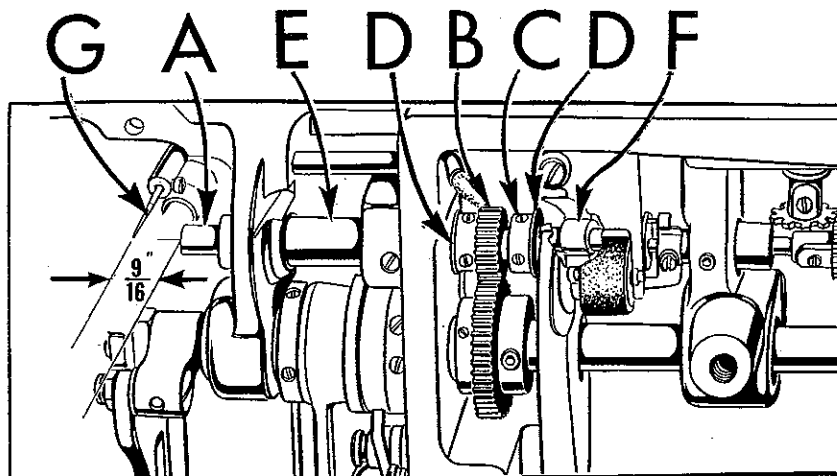

Fig. 21
The hook shaft (A, Fig. 21) is held in position by the pinion (B) and collar (C) thrusting against hard steel washers (D) between the long left hand bushing (E) and the short right hand bushing (F).
Before re-assembly, the end of the hook shaft, its spiral groove and the pump disc should be thoroughly cleaned. Remove any end play found in hook shaft and determine that the 35/64 inch dimension has been maintained (Fig. 21).